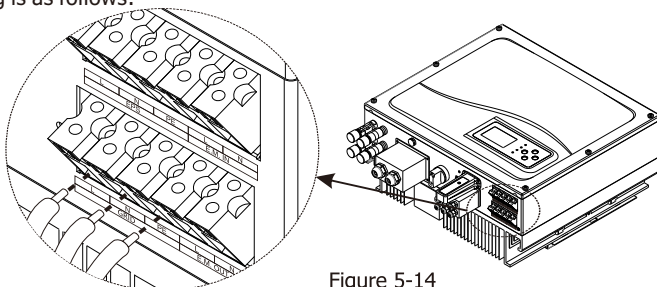
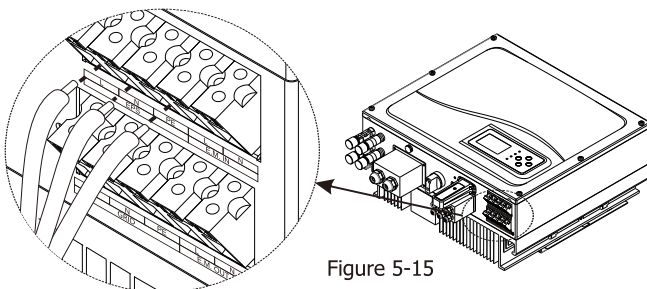

Figure 5-14
Figure 5-15
The inverter must be connected to the AC grounding conductor of the power distribution grid via the ground terminal (PE) ⊕, The symbol "PE" is shown in Figure 5-14 and Figure 5-15. If necessary, ground the chassis as shown below.